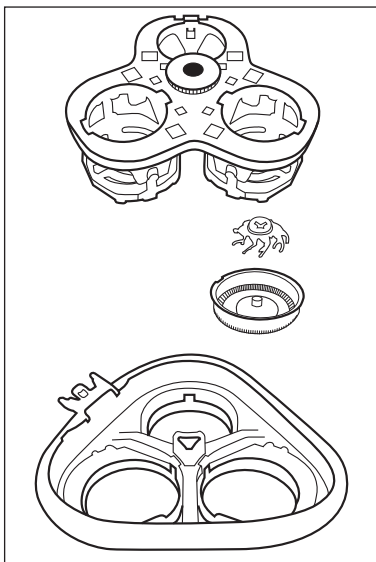

Figure 1
- 3) Press the black gear wheel down slightly and turn it carefully anticlockwise until the shaving head holder can be lifted out (see Figure 1).
- 5) Replace the cutting unit **2**. Refer to figure 1 for assistance: